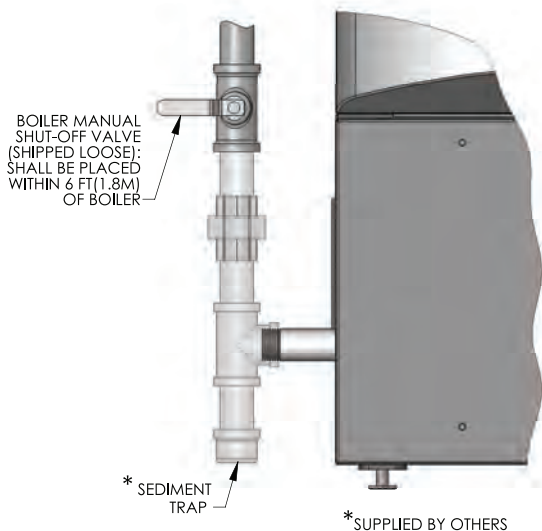

Figure 5.1: Gas Supply Pipe and Shut-off
2. Install a sediment trap as shown in Figure 5.1. Be sure to allow clearance from the floor or other horizontal surface for removal of the pipe cap.
4. Install a service valve as shown in Figure 5.1 to allow the gas supply to be interrupted for service.
7. Figure 5.1 shows the gas shutoff valve for the *PUREFIRE*[®] boiler. This valve is to be used in addition to the gas service valve shown upstream of the sediment trap.